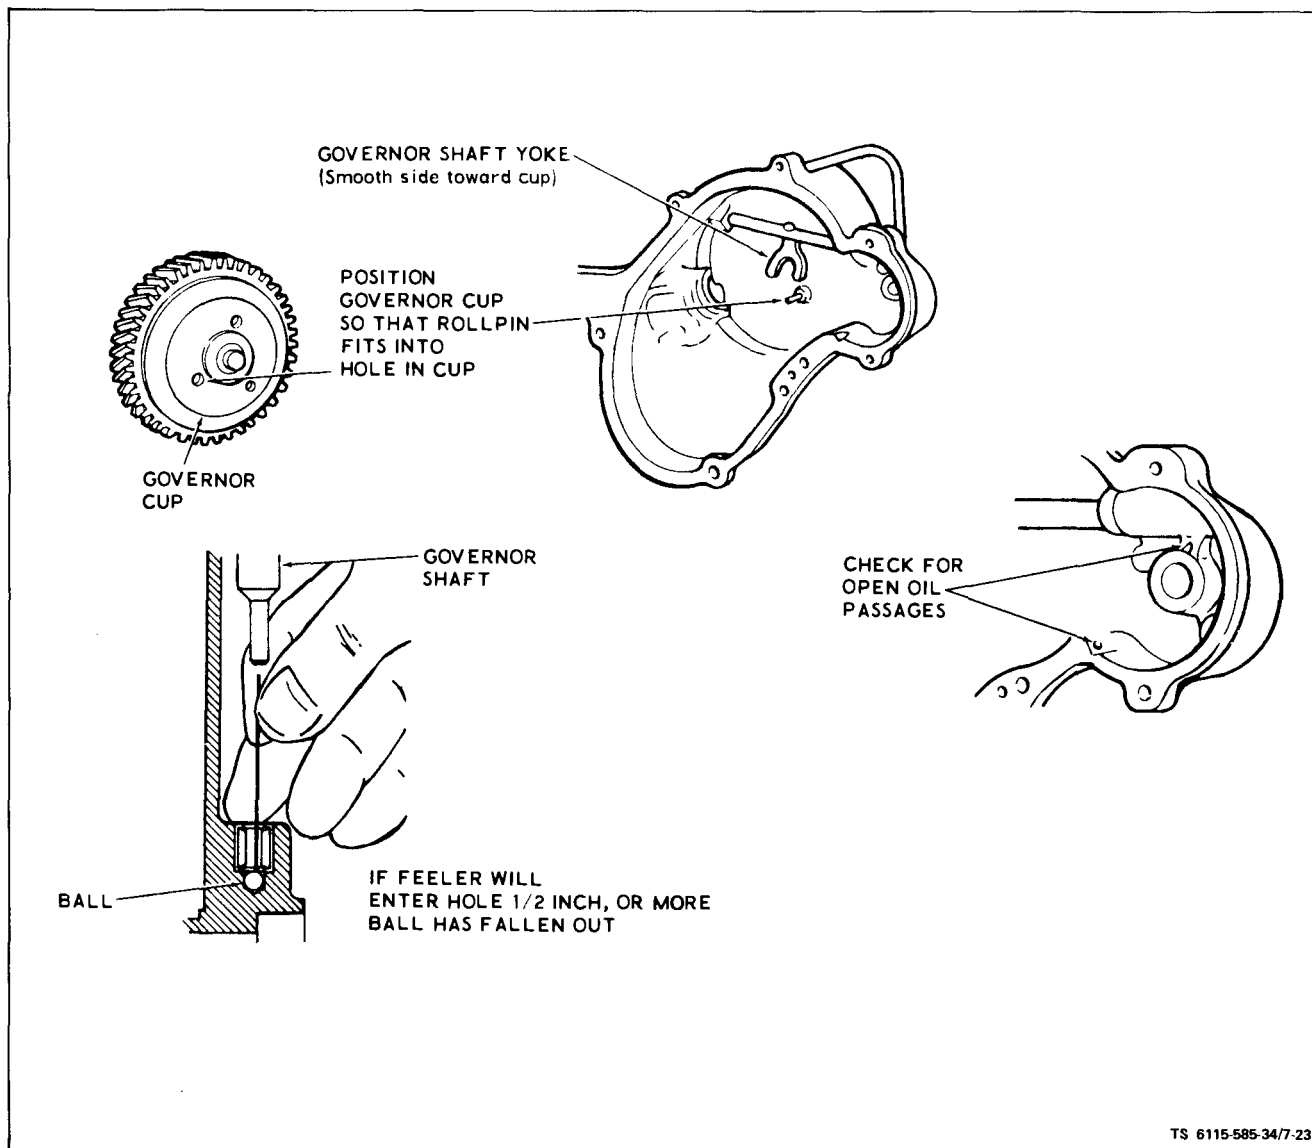

Figure 7-23. Gear Cover Inspection
(1) Work governor shaft to check for binding and see that governor- shaft-end-thrust ball is in place (see figure 7-23).